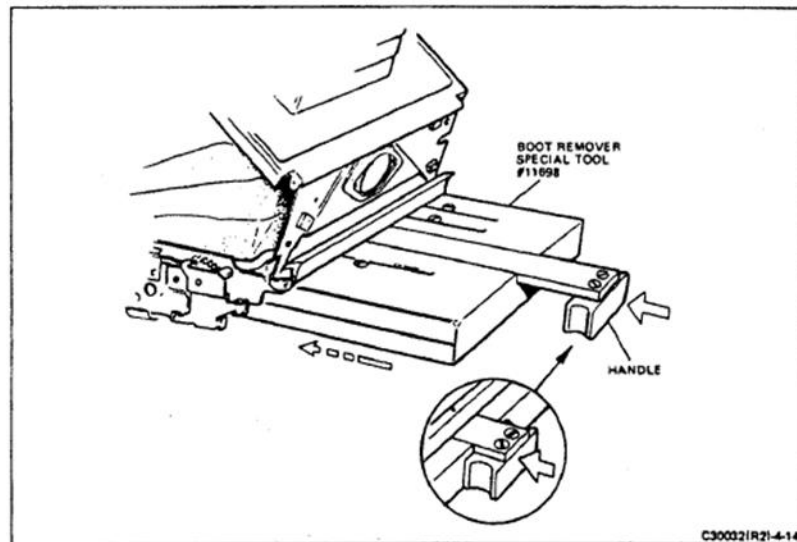

FIGURE 4-14 BOOT REMOVAL TOOL
12. Referring to Figure 4-14, note orientation of the handle; this must be as shown to prevent damage to tool and/or camera. Insert boot remover, Special Tool #11698, into the film compartment of the camera. Note that the plunger handle is out, away from the body of the tool. Be sure that the body of the tool is fully seated in the film compartment.